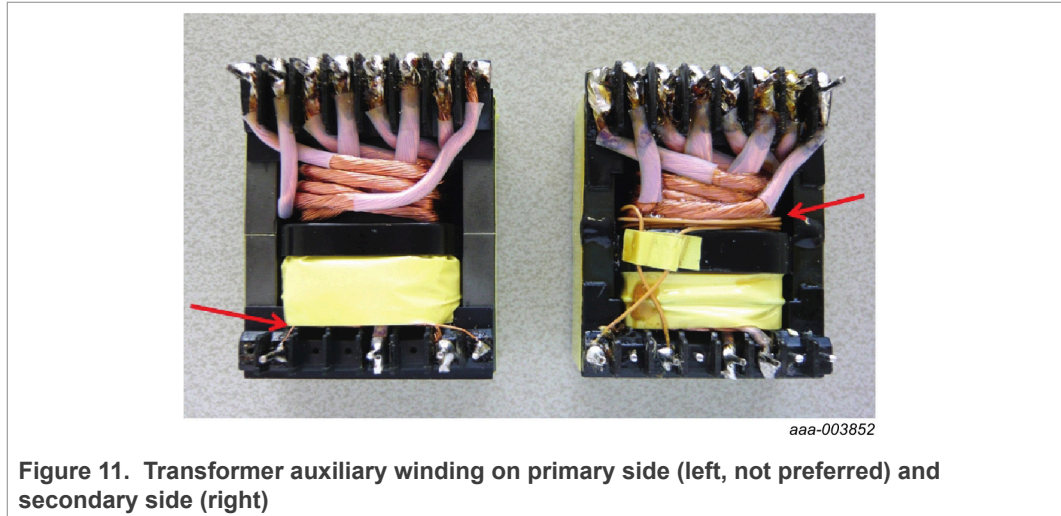
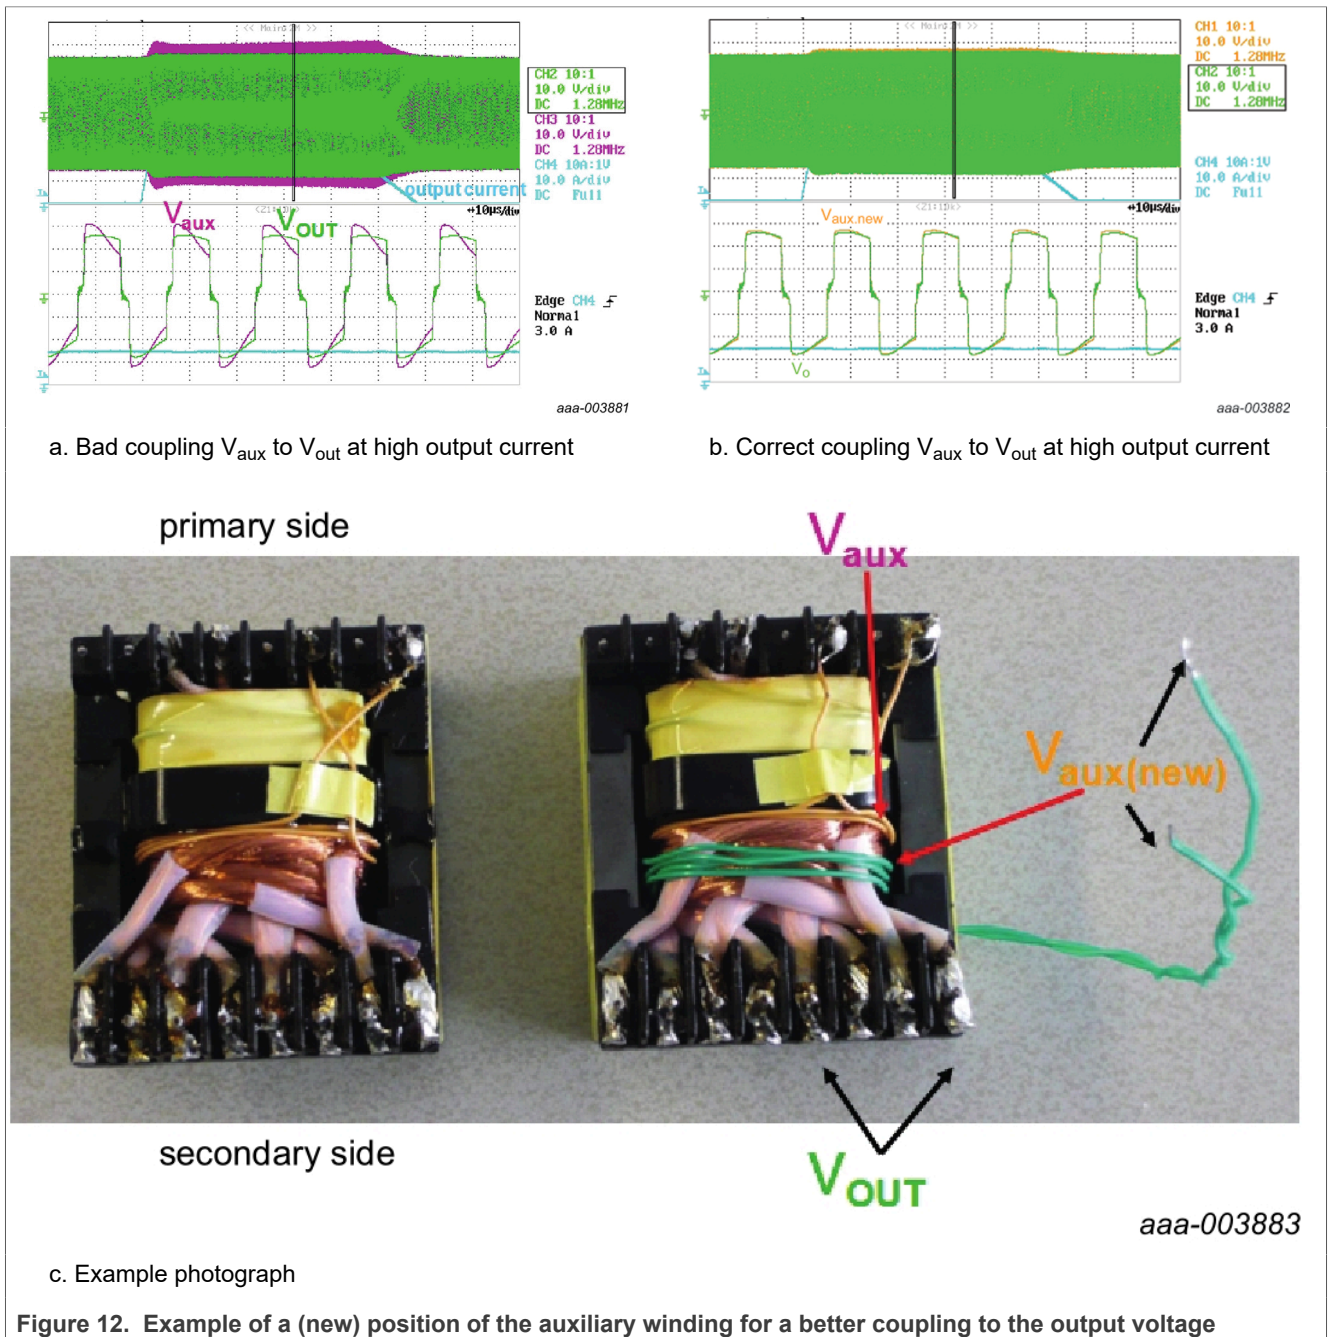

Figure 11. Transformer auxiliary winding on primary side (left, not preferred) and secondary side (right)
Figure 12. Example of a (new) position of the auxiliary winding for a better coupling to the output voltage
- To use the auxiliary winding voltage for the IC supply and for HBC output voltage measurement (using SNSOUT), the auxiliary winding supply must be an accurate representation of V_O . To ensure a good coupling, place the transformer auxiliary winding physically on the secondary output side. When the transformer contains separate sections for primary and secondary winding (see Figure 11 and Figure 12), this aspect is more critical than on transformers that have all windings in one section.
V_{SNSOUT} and/or V_{SUPIC} can contain unwanted primary voltage because of less optimal position of the auxiliary winding. When the transformer contains separate sections for primary and secondary winding (see type in Figure 11 and Figure 12), this aspect is more critical than on transformers that have all windings in one section. This deviation can seriously endanger the feasibility of the SNSOUT sensing function. It can also have a serious effect on the SUPIC voltage.
To avoid a primary voltage component on the auxiliary voltage, the coupling of the auxiliary winding with the primary winding must be as small as possible. Place the auxiliary winding on the secondary windings and physically as remote as possible from the primary winding. Figure 12 shows the differences in results using comparison of the secondary side position.